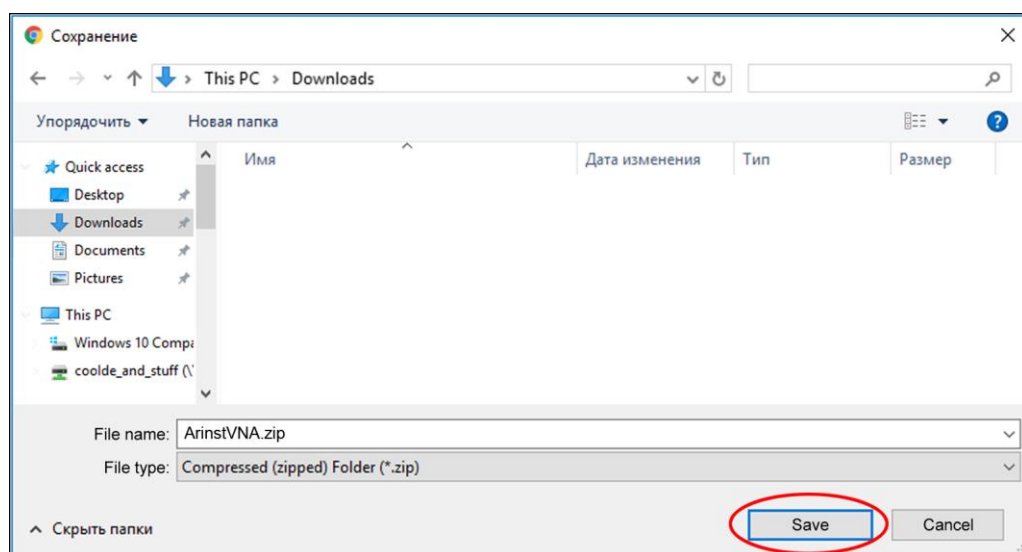

Figure 2.2 - Saving the downloaded file
2.2. Specify the path to download the installer archive file and click **Save** (figure 2.2). *In our example in figure 2.2 the archived file ArinstVNA is saved to the Download folder.*